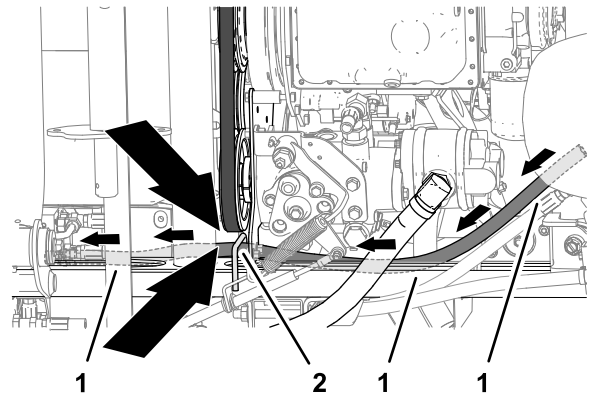

Figure 49
2. Route the hose along the frame channel toward the control console (Figure 49).